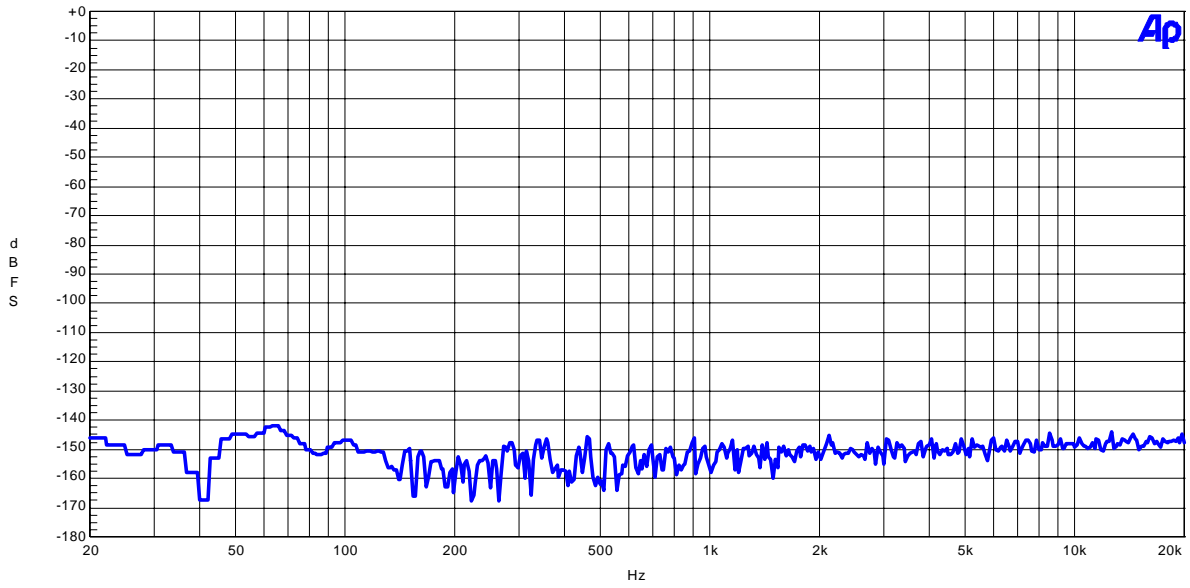

Figure 1-1-3. FFT (off the input)
- Figure 1-1-3. FFT (off the input)